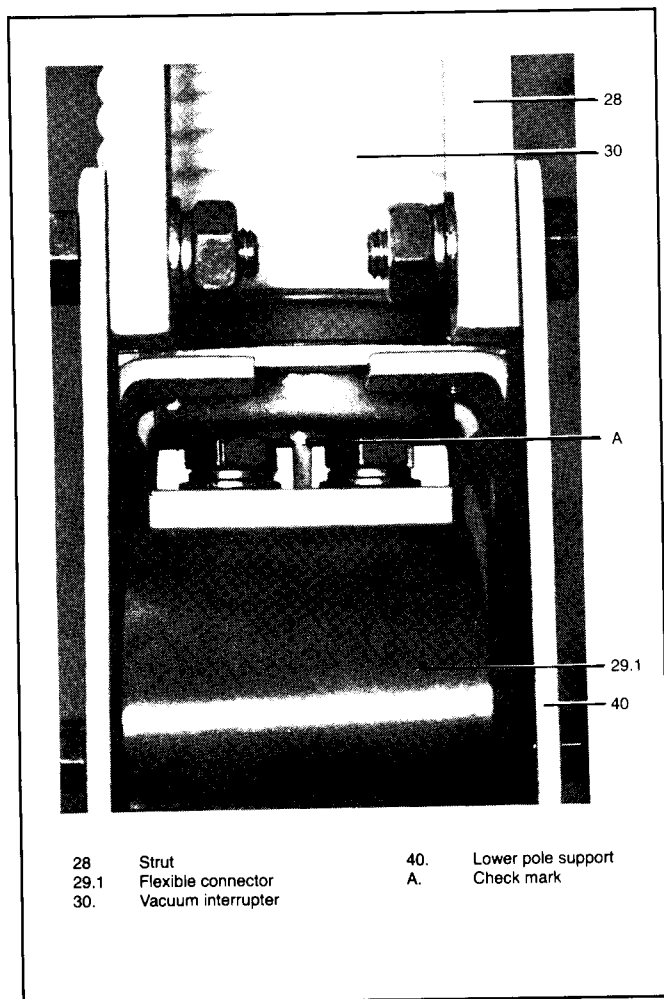

Figure 20. Contact Erosion Check
Contact erosion is checked on a closed breaker by visually observing a white dot erosion mark (A) on the exposed movable contact stem of the interrupter, see Figure 20.